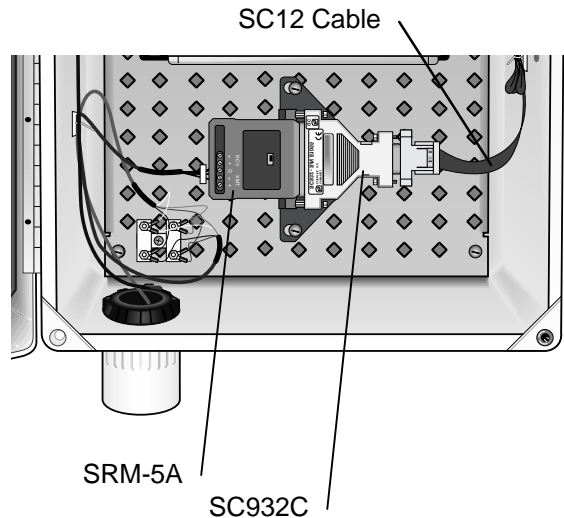

FIGURE 3.3-4. SRM-5A and SC932C in MetData1
Install the MetRad as shown in Figure 3.3-4.
1. Plug the SRM-5A into the SC932C. Position the notched tabs in the mounting bracket over the two screws in the SRM-5A (refer to Figure 3.3-4). Thread the SRM-5A screws through the bracket and into SC932C.
2. Connect the 4-wire leader cable to the SRM-5A as shown in Figure 3.3-4. Fasten the cable to the strain relief tab with a cable tie. Connect the SRM-5A to the PC's serial port using an SC25PS cable for 25-pin serial ports, or a PN7026 cable for a 9-pin serial port.